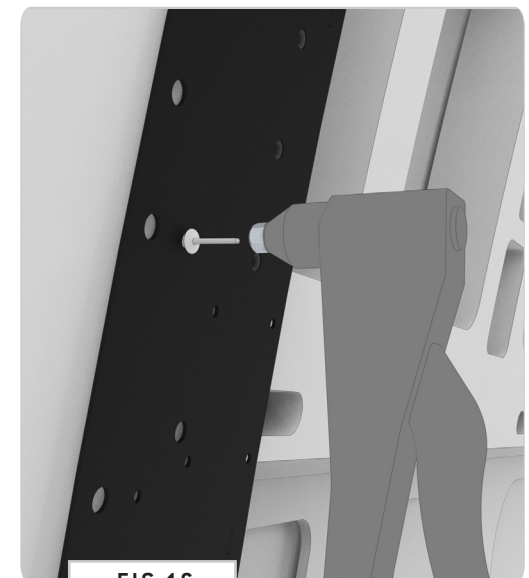

FIG 16
5.3 Install Rivets: After the paint has dried, install the **Rivets** (**FIG 16**).